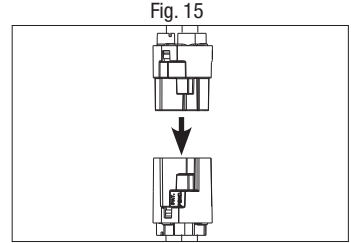

Fig. 15
8. Fully reconnect the quick disconnect by pushing the mating ends together (Fig. 15).